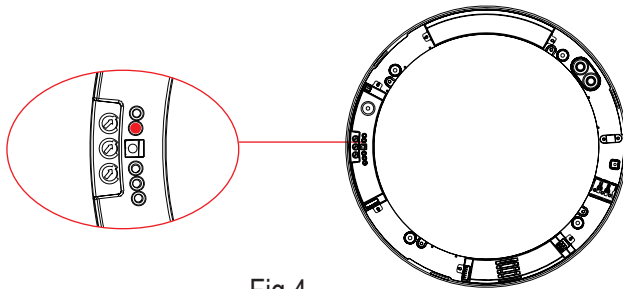

Fig.4
- 1、 There is an optical sensor inside the lamp(as fig.4), during the installation, it should be turned to where the sunshine is sufficient. At the same time, it should avoid other light sources, which will influence the judgement of optical sensor to the ambient illumination.